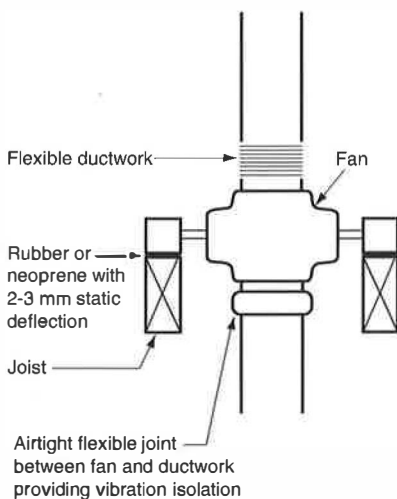
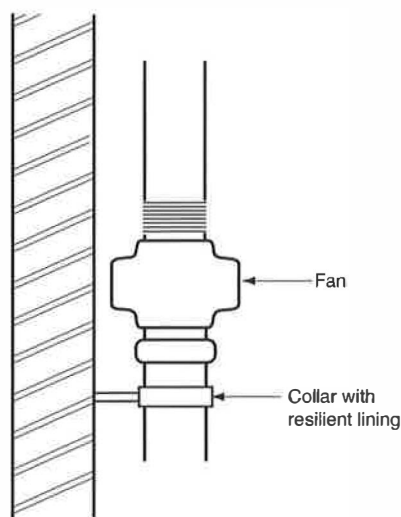

Figure 4 This fan is resiliently isolated from the ductwork and the structure
Figure 5 This fan is connected to ductwork which is resiliently isolated from the structure
- resiliently isolating the fan from the ductwork and structure (see Figure 4), or connecting the fan to the ductwork but isolating the ductwork from the structure (see Figure 5)